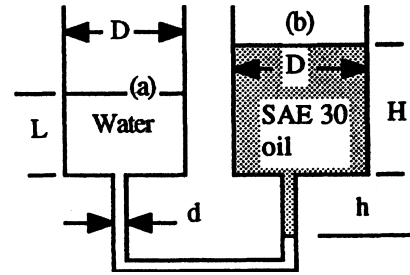

Fig. P2.34
**2.34** To show the effect of manometer dimensions, consider Fig. P2.34. The containers (a) and (b) are cylindrical and are such that  $p_a = p_b$  as shown. Suppose the oil-water interface on the right moves up a distance  $\Delta h < h$ . Derive a formula for the difference  $p_a - p_b$  when (a)  $d \ll D$ ; and (b)  $d = 0.15D$ . What is the % difference?